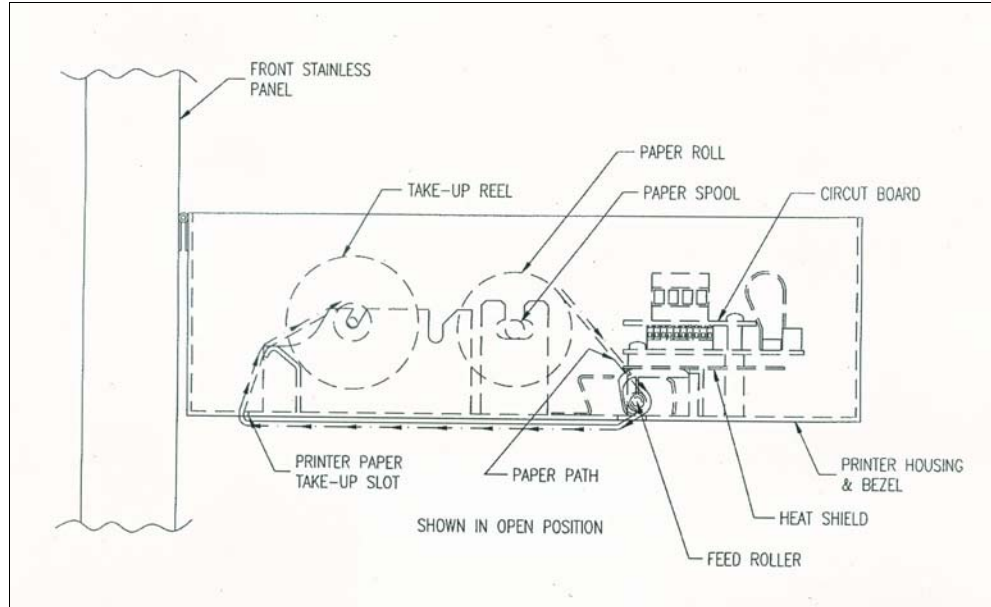

Figure 5.2.4-1 Paper Loading
4. Insert a new roll of paper on the paper holder axle and guide the edge of the paper into the printer mechanism paper input. Exposed circuit components do not contain perceptible voltages, but care should be taken to avoid damaging delicate electronic components. Thread the paper as shown in Figure 5.2.4-1 with the paper coming off the top of the roll rather than the bottom of the roll. The Thermal Printer has an autofeed feature—simply line the paper up in the slot and the printer mechanism will grab and pull it through to the front.